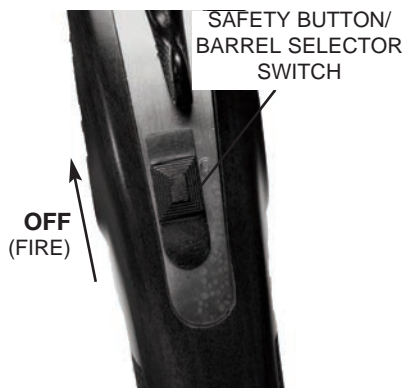

Figure 1b
To engage the safety button to the “ON” (SAFE) position, the safety button must be moved fully rearward (Figure 1a). The safety button will now expose an “S” located just in front of the safety button. The “S” is a training aid used only to show the direction of the “ON” (SAFE) position and should not be used as an indicator that the safety is “ON” or “OFF.” Moving the safety button fully forward toward the muzzle of the shotgun will place the safety in the “OFF” (FIRE) position (Figure 1b).
1. With the muzzle pointed in a safe direction and the firearm held in the proper firing position, move the safety button fully forward to the "OFF" (FIRE) position (Figure 1b).